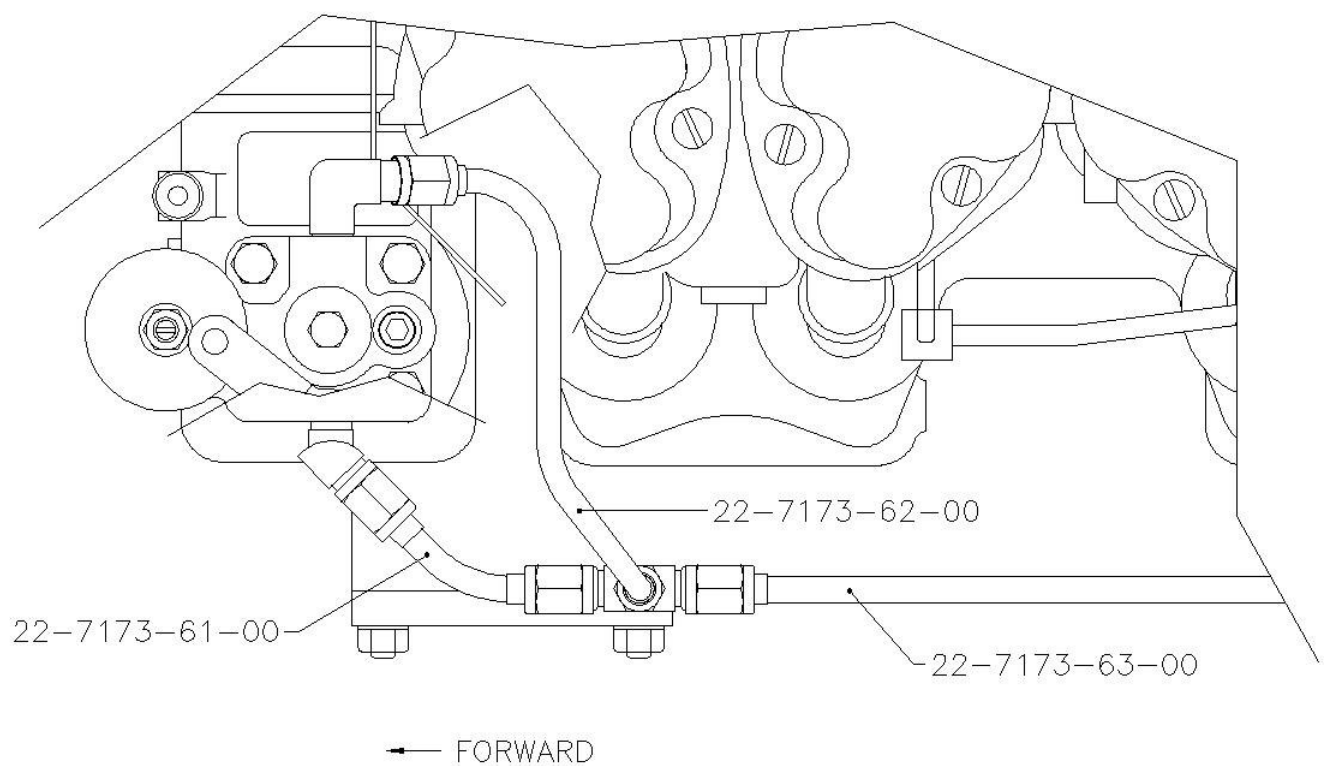

Figure 1: Drain / Vent Assembly
- 10.1** Remove the fuel pump drain line from the engine (refer to Chapter 71-70-00, Section 4A, of the AMM). Assemble the forward section of the replacement tube, P/N 22-7173-61-00, and the aft section, P/N 22-7173-63-00, to the straight run ends of the AN824-4D "T"-fitting. Refer to Figure 1.
- 10.2** Install the assembly from the previous step in place of the existing drain line (refer to Chapter 71-70-00, Section 4B, Steps 1-4, of the DA20-C1 AMM). Orient the "T"-fitting so that the "T" points outboard. Refer to Figure 1
- 10.3** Install the altitude compensating fuel pump vent line (P/N 22-7173-62-00) to the 90° MS20822-4D fitting in the fuel pump static pressure reference port. Connect the other end of 22-7173-62-00 to the "T"-fitting in the new fuel pump drain line. Refer to Figure 1.
- 10.8** Using the template (Figure 7), mark the location of the new slot on the left baffle and apron. Use the two holes indicated in Figure 1 to locate the template. Drill pilot hole(s) if required and open up the slot to the final dimensions on both the baffle and the apron.